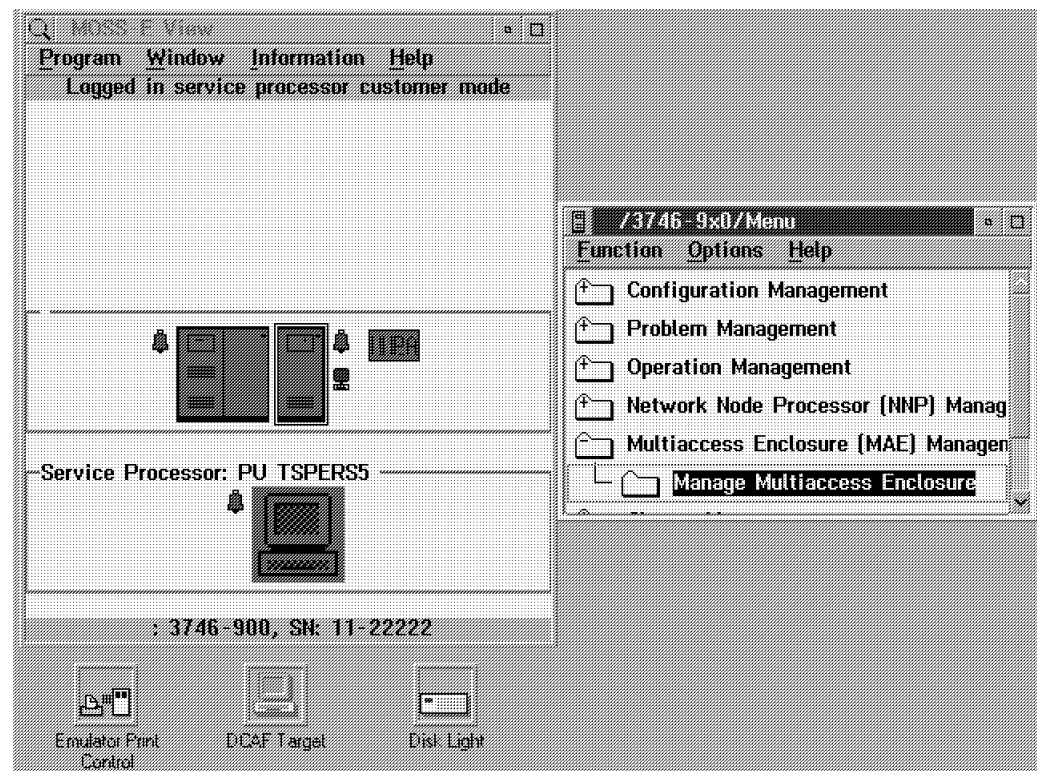
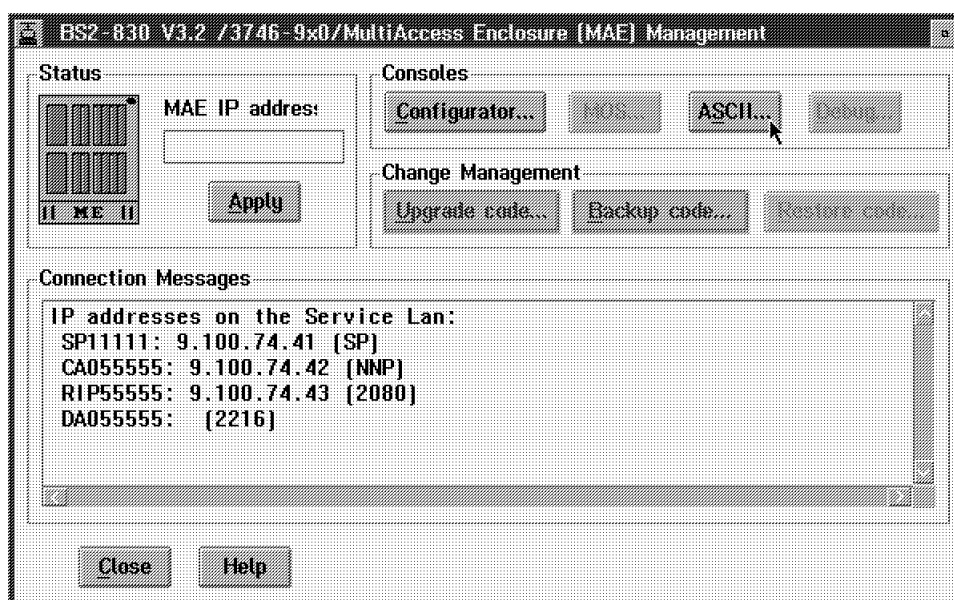

Figure 26-1. Multiaccess Enclosure Management Menu within Service Processor
Figure 26-3. Multiaccess Enclosure Management Menu Window
The 3746 multiaccess enclosure uses the 2216-400 Configuration Program integrated into the service processor to configure its slots, adapters, interfaces, and protocols to be used in your network. The 3746 Multiaccess Enclosure functions are accessed from the 3746-9x0 menu. See Figure 26-1. Selecting **Manage Multiaccess Enclosure** from this menu will open the 3746 multiaccess enclosure management window. Refer to Figure 26-3 on page 26-3.
Figure 26-3 shows the Multiaccess Enclosure Management Menu before any setup has been performed on a new 3746 multiaccess enclosure. The field MAE IP address is blank and should have the IP address of the multiaccess enclosure service LAN port entered directly into this field. This will tell the service processor who to talk to when addressing the multiaccess enclosure.
The ASCII console is a direct connection from the service processor SERIAL port to the multiaccess enclosure IEA 232 interface on the system card. The ASCII... button on the Multiaccess Enclosure Management Menu (see Figure 26-3 on page 26-3) opens a QVT window for communication. You may need to use this console during the initial installation. After the initial setup connection (refer to “Setting Up the 3746 Multiaccess Enclosure” on page 26-5), generally performed by the IBM service representative, you will not be required to use this console interface for multiaccess enclosure operation, as long as IP forwarding is enabled. If IP forwarding is enabled, an IP stack is built on the multiaccess enclosure and the service LAN token-ring port IP address has been set, then you may connect via MOS (TELNET) (see “MOS (Telnet) Console”).
**Note:** In Figure 26-3 on page 26-3 the MOS... button is disabled. This is because the multiaccess enclosure requires initial setup. Refer to “Setting Up the 3746 Multiaccess Enclosure” on page 26-5.
In the MultiAccess Enclosure Management Window the 3746 multiaccess enclosure Status should be green. This only indicates that the multiaccess enclosure PCMCIA service ring port has been contacted, that is, it has an IP address set. If the icon is not green, you need to set the MAE IP address. (refer to the status area on Figure 26-3 on page 26-3) and also follow the procedure found in “Setting Up the 3746 Multiaccess Enclosure.”
2. Double-click on the Multiaccess Enclosure menu. line to open the window (Figure 26-3 on page 26-3).